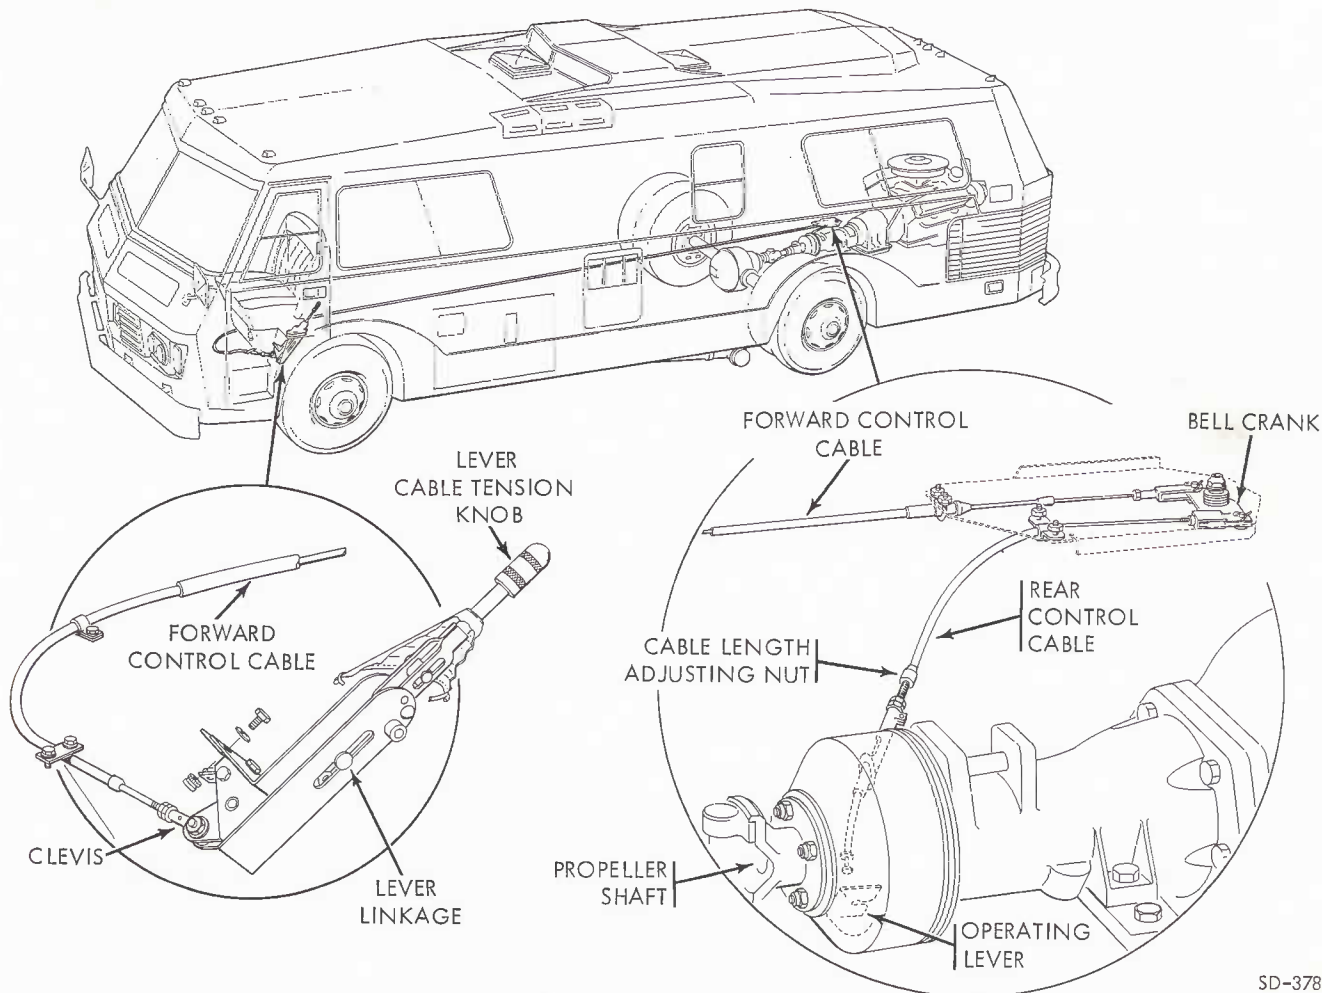

Figure 4-27. Parking Brake and Cable
e. Parking Brake Adjustment (fig. 4-27). The parking brake lever cable tension may be adjusted for proper brake function by turning adjusting knob on brake lever clockwise to tighten; counter-clockwise to relieve tension.